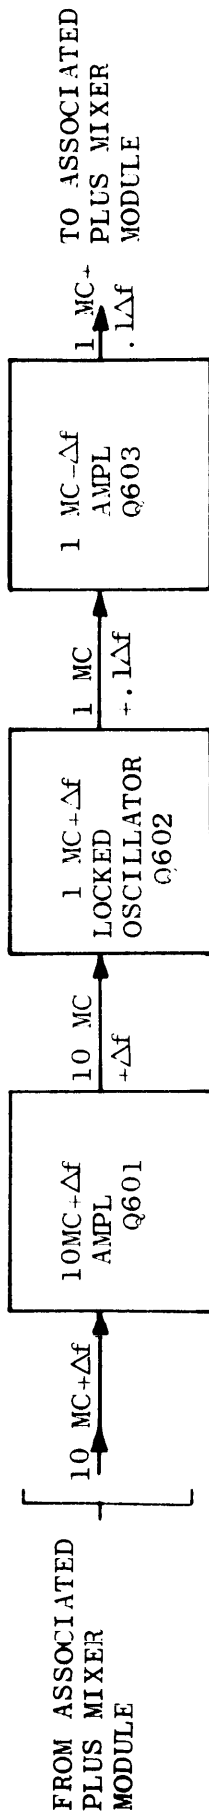

Figure 4-7. Divide By Ten Module, Functional Block Diagram
e. DIVIDE BY TEN MODULE. - Figure 4-7 is a functional block diagram of a typical Divide By Ten Module. There are four identical Divide By Ten Modules in the LFSB synthesizer. Each module utilizes a $10 \text{ Mc} + \Delta f$ signal from an associated Plus Mixer Module to produce a $1 \text{ Mc} + .1\Delta f$ output signal.